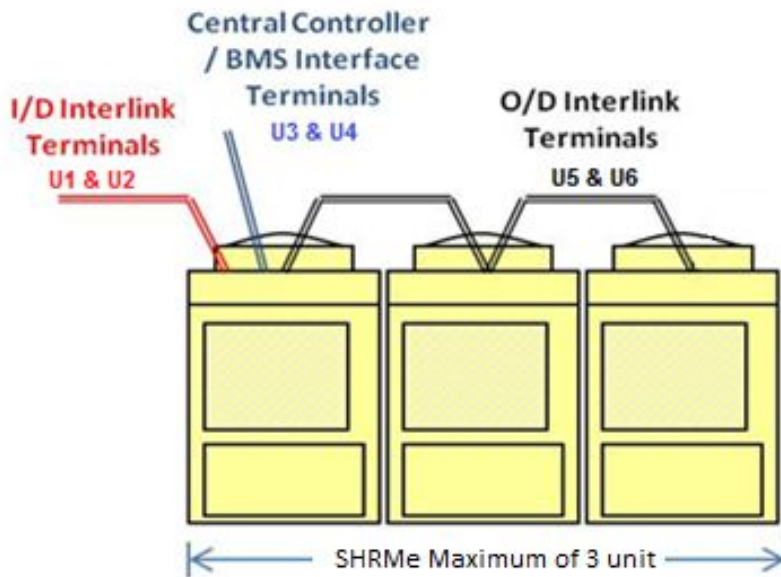

Fig 2
2) Indoor to outdoor connection, 1.5mm two core screened cable connected to terminals U1 & U2 of the LEAD outdoor unit and “daisy chained around ALL relevant indoor units, (Fig 2), *(To speed up commissioning, leave these terminals disconnected at the outdoor unit until all other works are complete. By these cores being disconnected premature addressing cannot be carried out, but the crankcase heaters can be operated, more on this later.)*